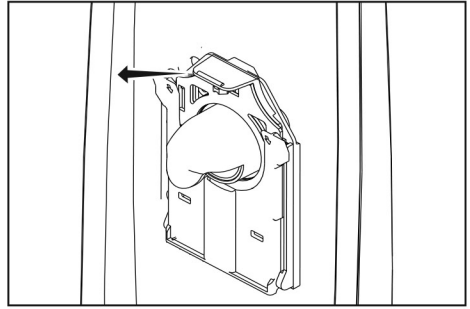
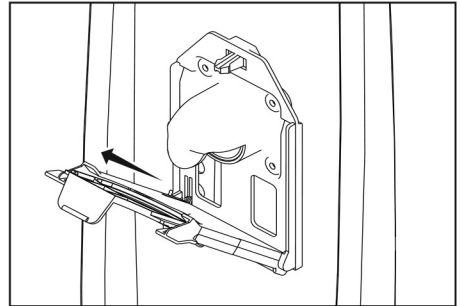

Fig. 1
Fig. 2
2. Remove the used vacuum bag by pulling the green bag collar tab away from the vacuum (Fig. 1). Slide the used bag out of the bag holder which automatically seals the bag opening (Fig. 2). Discard the used bag.